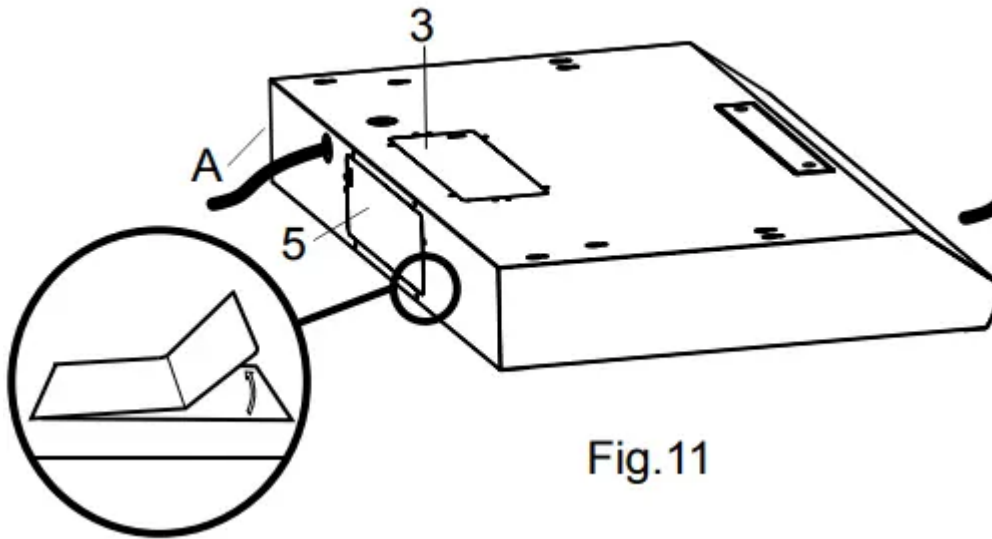

Fig.11
- Choose the venting hole to remove for your installation type. Use the top hole (3) for a top venting installation and the back hole (5) for a back venting installation.
- Carefully remove the cover (3 or 5) of the appropriate venting hole using a flat head screwdriver or needle nose pliers (refer Fig. 11). Be careful not to leave any debris inside the range hood (A).